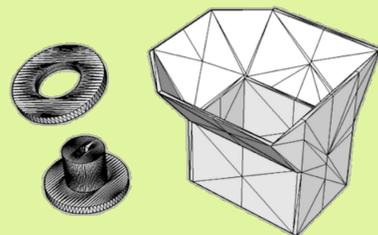

Figure 3: Examples of custom parts made by Sketchup/MakerBot
- We also used Sketchup and MakerBot to construct custom machine parts as shown by Fig.3.